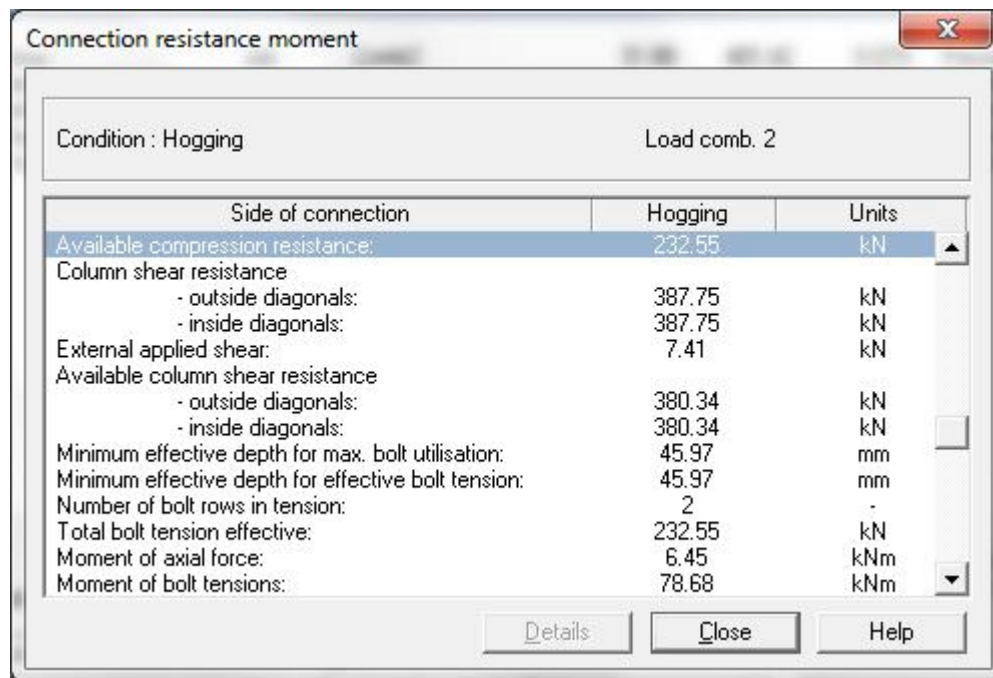

Fig 4.24 Part of Connection resistance moments results.
- Open the *Connection resistance moments – Right* page for load combination 2 as shown in fig 4.24.